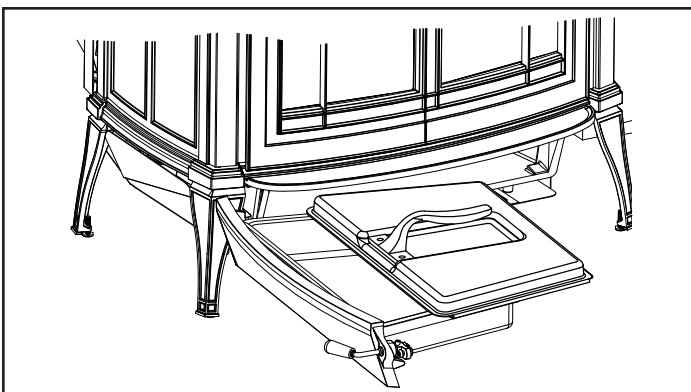

**Figure 2.10 -** Be sure the cover is securely attached before removing the ash pan.
- Slide the cover onto the pan, making sure it is securely closed. (Figure 2.10)